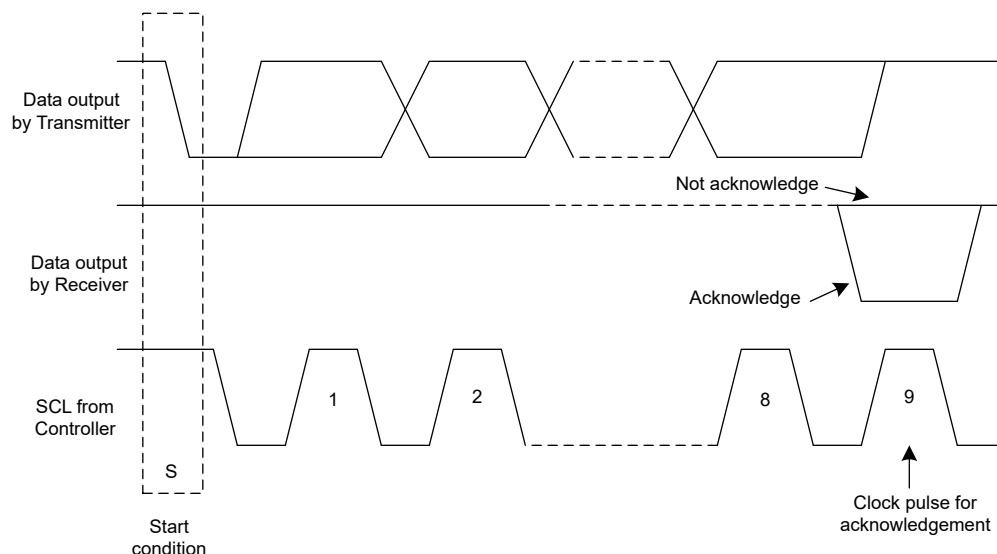
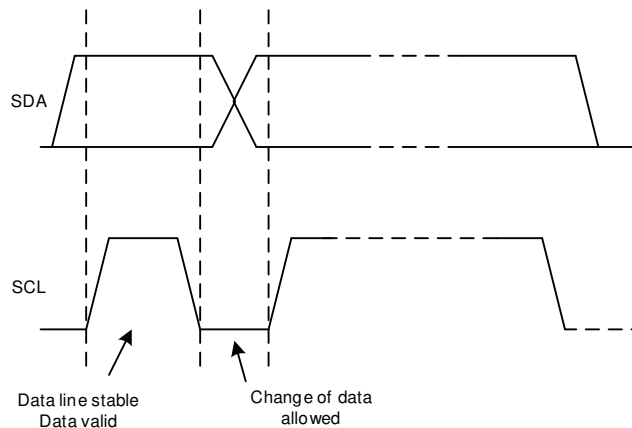

Figure 8-4. Acknowledge and Not Acknowledge on the I²C Bus
Figure 8-6. Bit Transfer on the I²C Bus
Other than specific timing signals, the I²C interface works with serial bytes. At the end of each byte, a ninth clock cycle generates and detects an acknowledge signal. Acknowledge is when the SDA line is pulled low during the high period of the ninth clock cycle. A not-acknowledge is when the SDA line is left high during the high period of the ninth clock cycle as shown in Figure 8-4.
- The controller then generates the SCL pulses, and transmits the 7-bit address and the read/write direction bit (R/W) on the SDA line. During all transmissions, the controller makes sure that data are valid. Figure 8-6 shows that a valid data condition requires the SDA line to be stable during the entire high period of the clock pulse. All devices recognize the address sent by the controller and compare the address to the internal fixed addresses. Only the target device with a matching address generates an acknowledge by pulling the SDA line low during the entire high period of the ninth SCL cycle; see also Figure 8-4 by pulling the SDA line low during the entire high period of the ninth SCL cycle. Upon detecting this acknowledge, the controller knows the communication link with a target has been established.